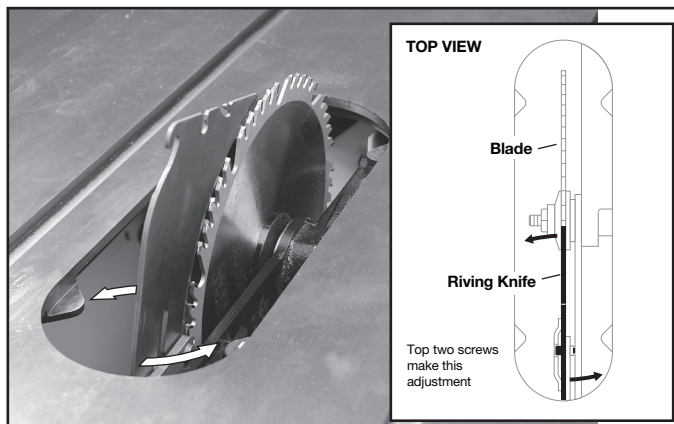
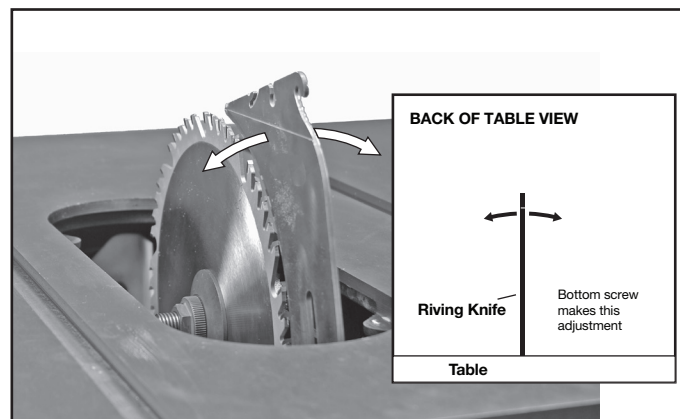

FIG. 36
FIG. 37
- NOTE:** The two set screws (PP) near the riving knife locking plate (RR) adjust the riving knife as shown from the TOP VIEW (Fig. 36). The set screw (QQ) adjusts the riving knife as shown from the BACK OF TABLE VIEW (Fig. 37).